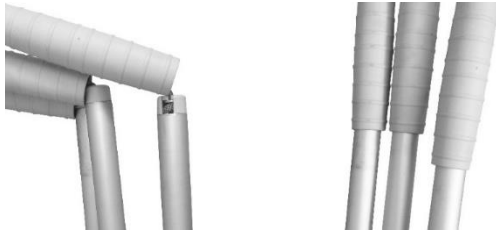

Fig. 35. Close view of connectors.
2. Unfold it, than insert the poles into connectors (fig. 35).